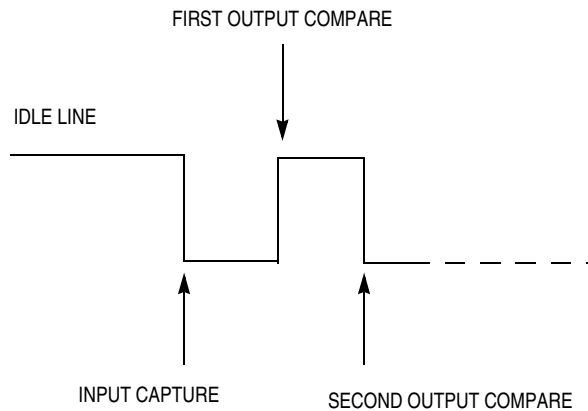

Figure 4. Receiving with the Timer Functions
In this application, if data is not being transmitted, the input capture (IC) function of the timer is enabled. In this way, the user can wait for the start bit of an incoming transmission without any software overhead. When the start bit is received, the IC interrupt is triggered. This provides both a wakeup to start receiving and the start of a timing reference via the value in the IC registers (see Figure 4).